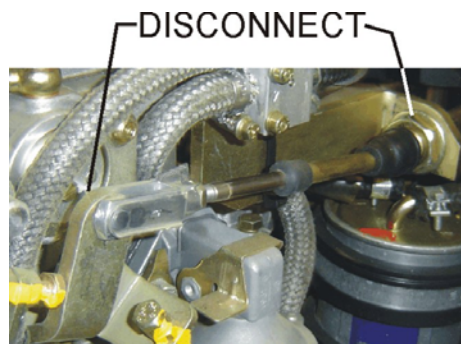

Figure 9. Throttle Removal
10. Disconnect the throttle cable by loosening the jam nut (Figure 9) at one end of the cable and at the other end of the cable disconnect the cable from the clevis pin.